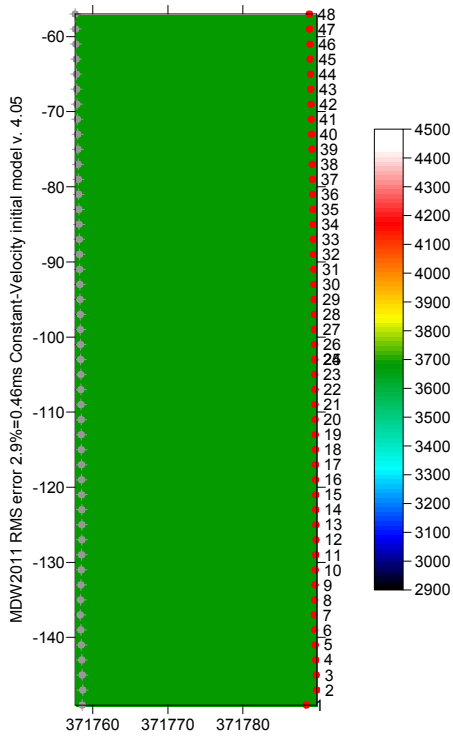

Fig. 5 : Smooth invert|WET with constant-velocity initial model.
- wait for the constant-velocity starting model to show as in Fig. 5